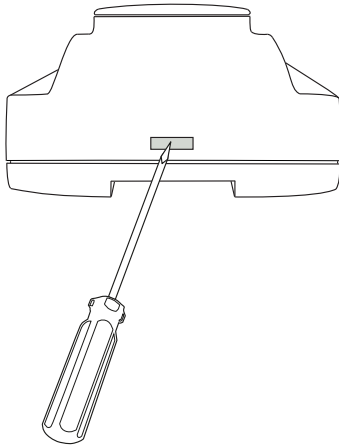

Figure 11-1 Removing the top of the casing
2. Remove the top of the casing by pressing the two tabs on each side of the casing and then lift up the top of the casing carefully. See *Figure 11-1*